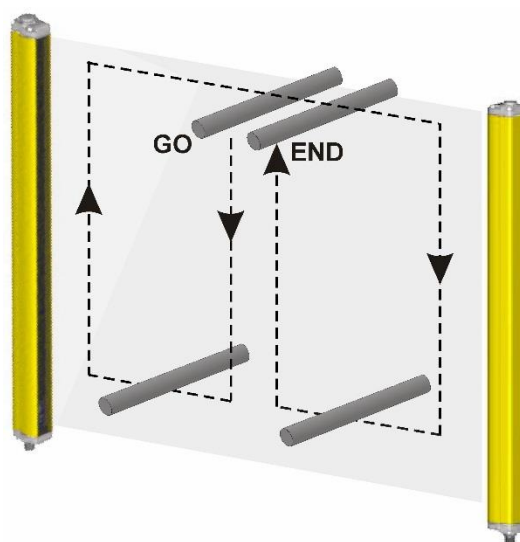

Figure 11 – Scheme for checking the function
- The AOPD remains in OSSD OFF state () during beam interruption along the entire detection zone, using the suitable "Test piece" according to the Figure 11 scheme. The suitable "Test Piece" has one dimension identical with the resolution of the AOPD, a cylinder with a 14 mm diameter for a light curtain with a 14 mm resolution for example.